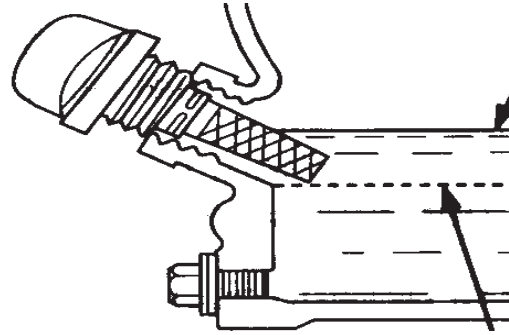

Figure 17. Engine Oil Dipstick (Removal)
2. Remove the filler dipstick from the engine oil filler hole (Figure 17) and wipe it clean.